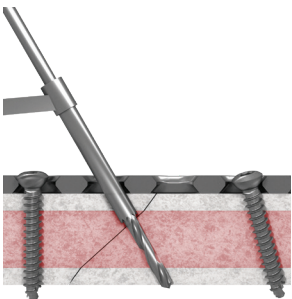

Figure 4
- 10. For additional compression at the fracture site, lag screw technique can be used through the plate by overdrilling the near cortex (Figure 4) with the 3.5mm Drill Bit or 2.7mm Drill Bit.